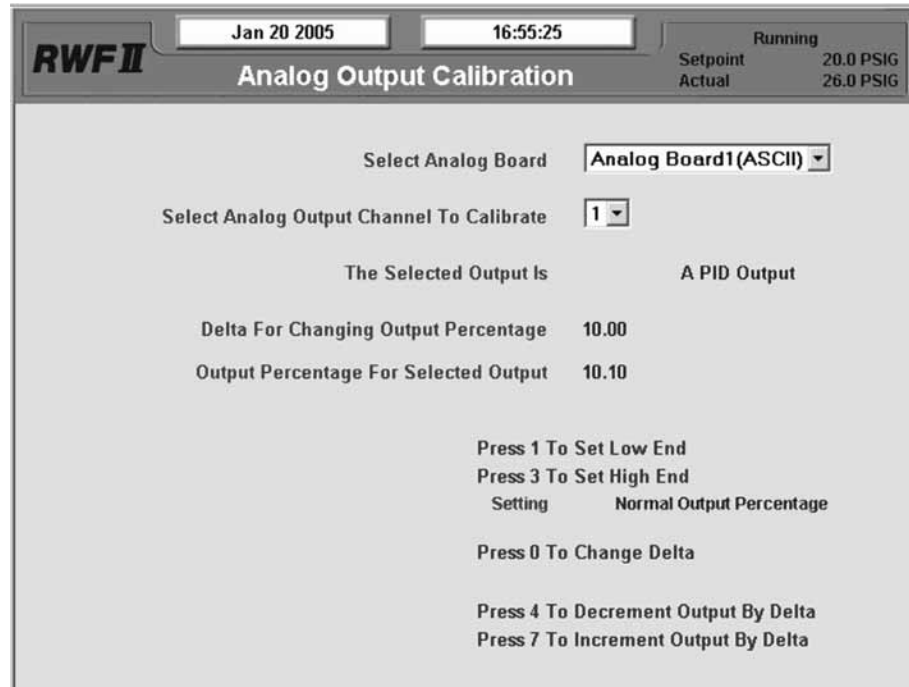

Figure 14
- Set operating session to Session 2 and go to the screen shown in Figure 14 by pressing [Menu] > [Calibration] > [Analog Outputs] > [Output Calibration].